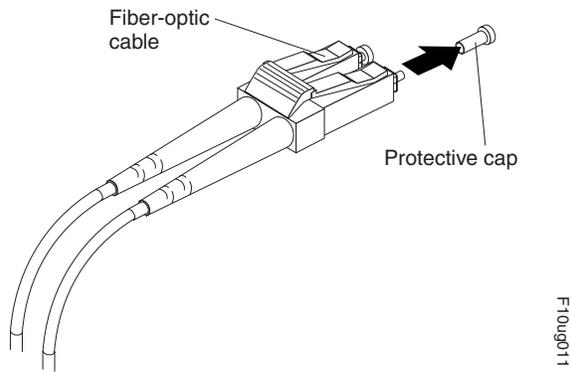

Figure 29. Removing caps from fiber-optic cables
1. Remove the protective cap from the fiber-optic cable. See Figure 29 on page 46.